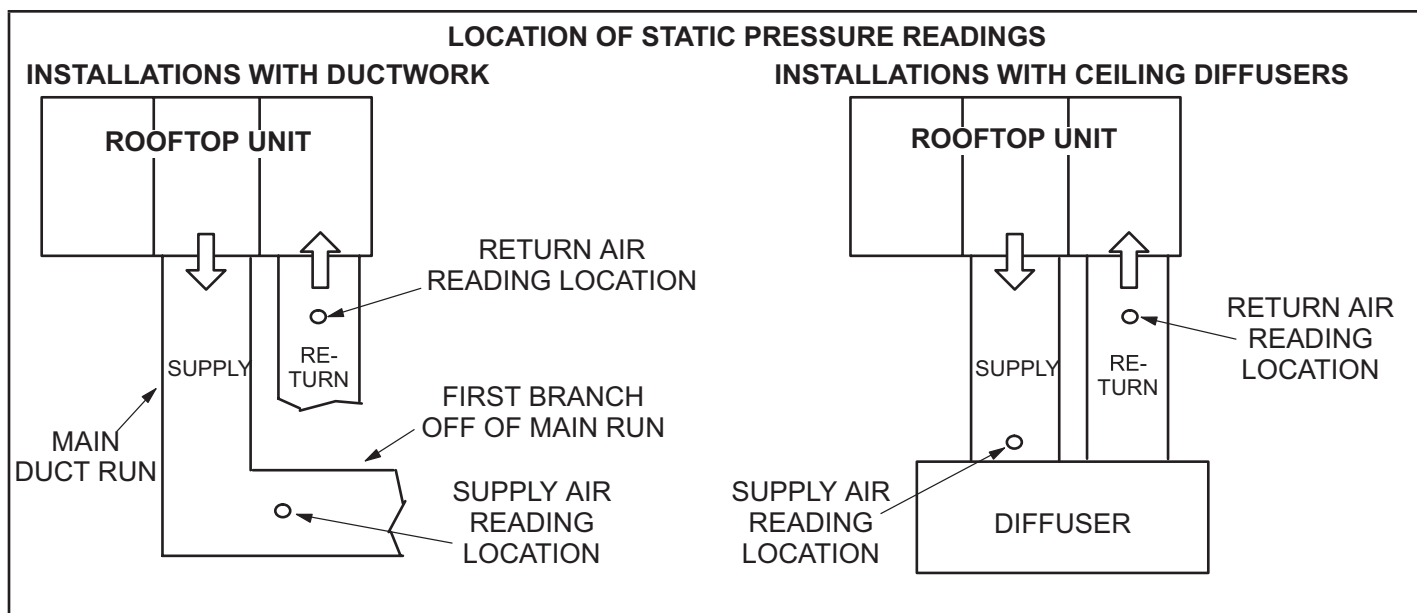

FIGURE 9
- 2 - With all access panels in place, measure static pressure external to unit (from supply to return). Blower performance data is based on static pressure readings taken in locations shown in FIGURE 9.